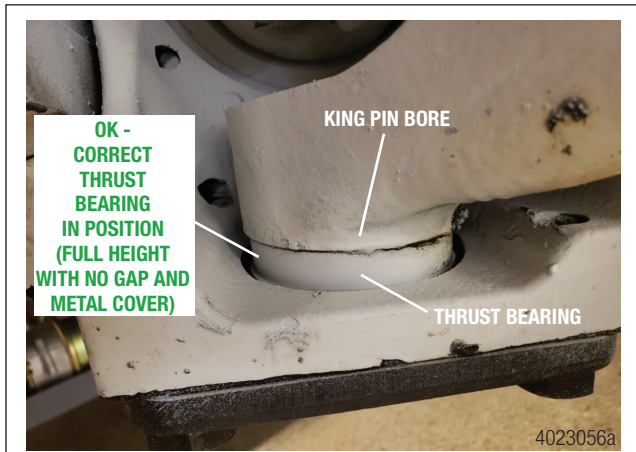

Figure 2
4. Inspect the lower king pin area to determine if the correct thrust bearing is installed. The correct thrust bearing will be full height with no gap between the thrust bearing and the lower king pin bore, and will have a metal cover. Figure 2.